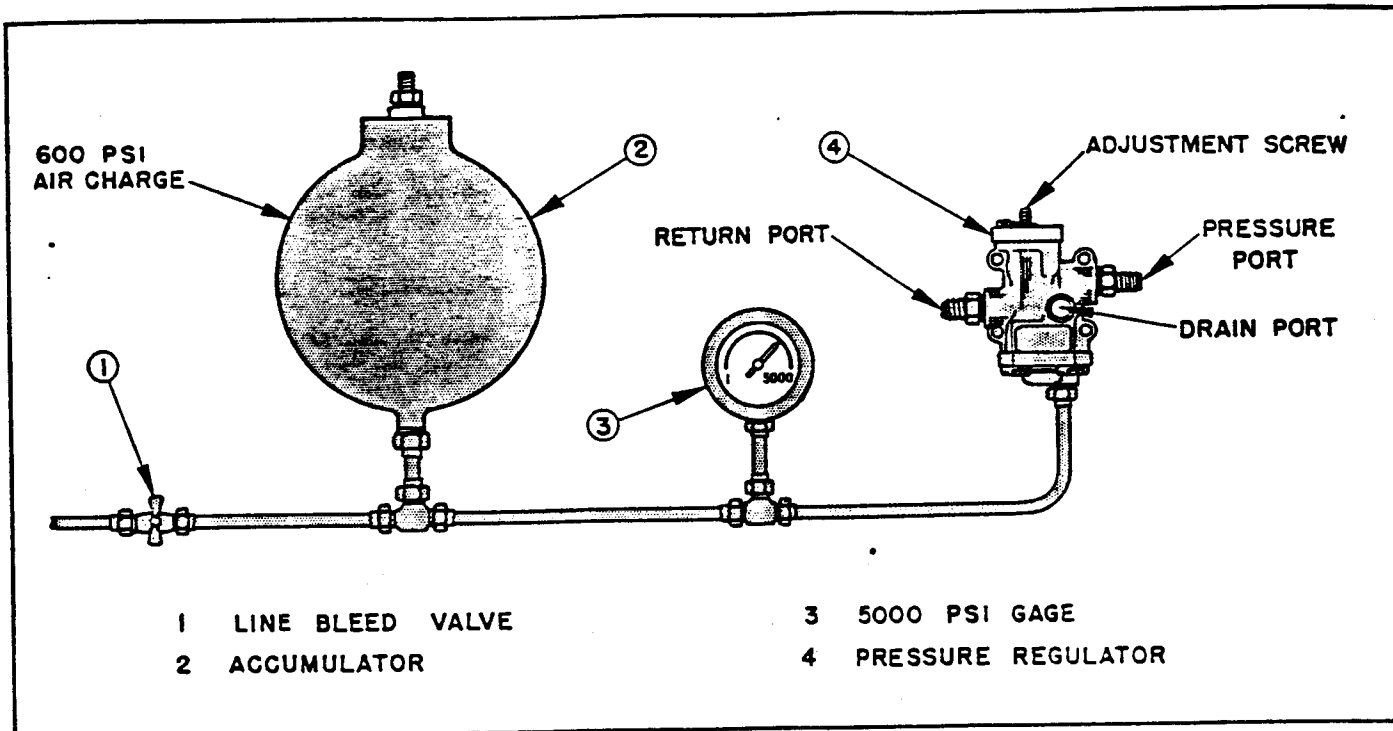

Figure 48. Pressure Regulator Test Set-Up
1. Make the test set-up as shown in figure 48. Apply pressure to the pressure port until the regulator unloads. This should be at 3000 ± 50 psi. Open the bleed valve until the regulator loads. This should be $2600 +100$ or -50 psi. Vary the rate of bleed-off, from one half to five gpm. Adjust the regulator as required to maintain pressures noted above during approximately 10 cycles of operation.